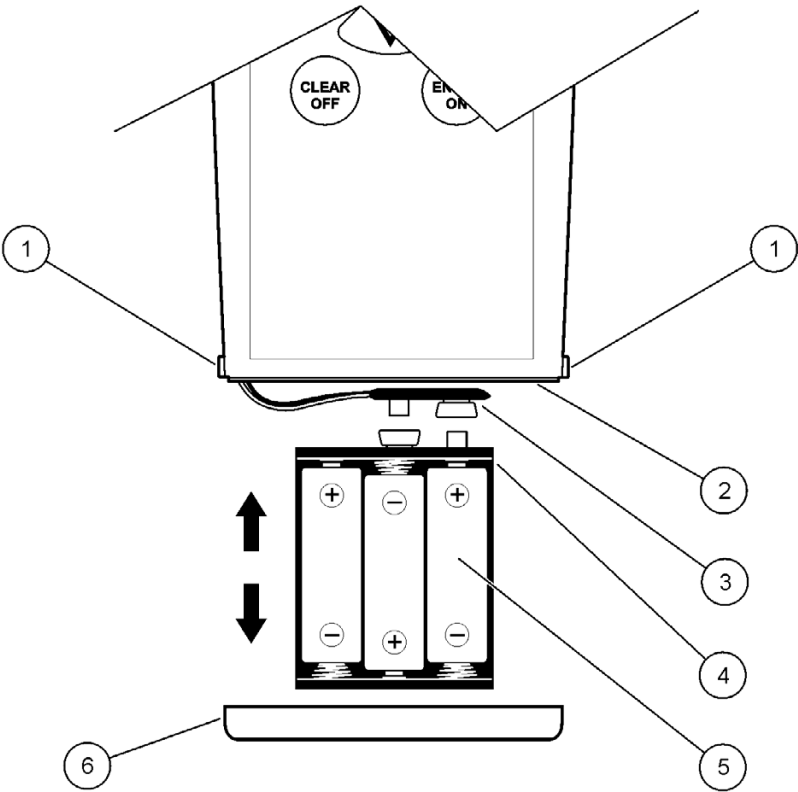

Figure 2 Insert the batteries
The instrument is operated by six rechargeable or standard batteries (NiMH or alkali) (Figure 2).
- 2. Take the battery holder out of the battery compartment (Figure 2).